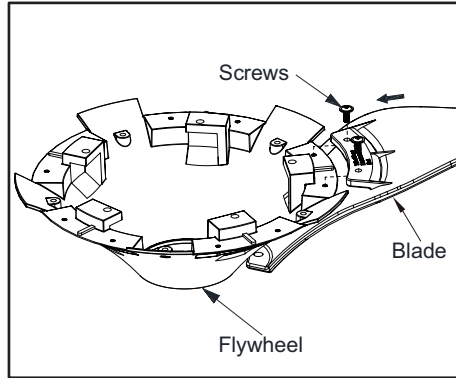

Figure 5
1. Attach the blades to the flywheel by aligning the notches on the blades with alignment post on the flywheel and put the blade on to the flywheel. Secure with screws but do not tighten. (Figure 5)